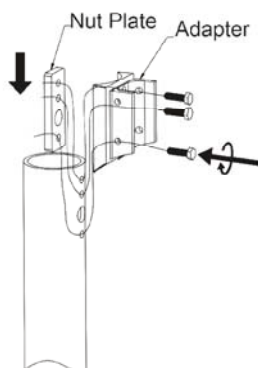

FIG.2
- Tighten the nut plate and adapter on the pole (see **FIG.2**).